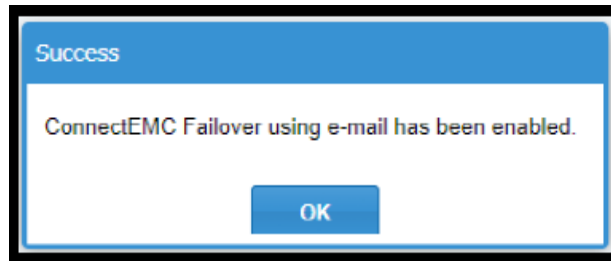

Figure 65 Success message for enabling failover using FTPS
1. Select or deselect the Connect Home connection(s). The **Test** button becomes enabled and a success message appears, as shown in Figure 65 on page 52.